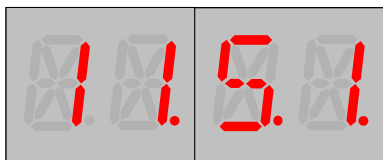

Figure 8d: Current Bit value.
4. Press SELECT. The Bit value is displayed. See **Figure 8d**.